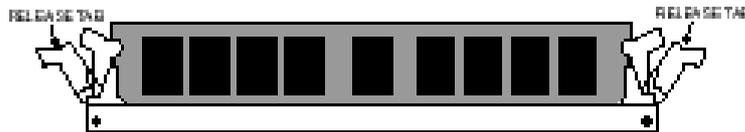

Figure 2-1 Installing a 168-pin DIMM
1. Hold the DIMM so that notched edge is aligned with the notch on the DIMM socket (Figure 2-1).